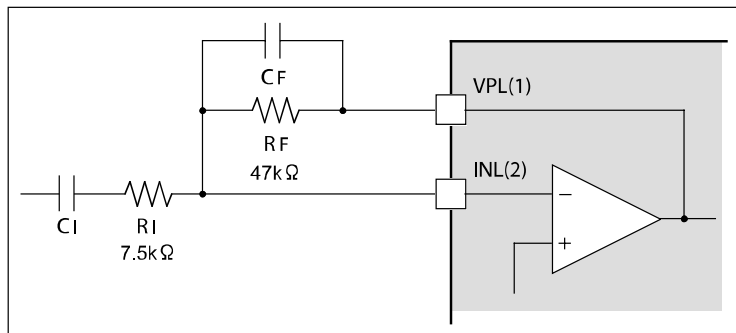

Figure 1: First stage inversion operational amplifier input circuit example
In "Application circuit", input resistor (R1)=7.5kΩ and feedback resistor (RF)=47kΩ and the gain of the first stage inversion operational amplifier is set at 16 dB, as described in "Figure 1: First stage inversion operational amplifier input circuit example". Therefore, the total gain at this case is given as described below.
In the "Application circuit", low pass filter capacitor (CF) is added to limit the band width of the input signal, as described in "Figure 1: First stage inversion operational amplifier input circuit example", whereby the value can be adjusted as necessary. To limit the input DC current, DC cutting capacitor (CI) is added, whereby this capacitor and input resistor (R1) constitute a high pass filter.